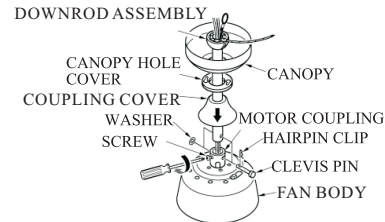

FIG.2
2. Insert the down rod through the center opening in the canopy, coupling cover and route the motor leads through the hanger ball/downrod assembly. Align the clevis pin holes in the downrod with the holes in the motor coupling. The clevis pin must pass through the holes in the motor coupling and the downrod. Place the washer onto the clevis pin and install the hairpin clip making sure to push straight leg of the hairpin clip through the hole near hanger ball to make sure the clevis pin is properly installed(See fig.2)
4. CONNECTING THE RECEIVER (FIG.2)